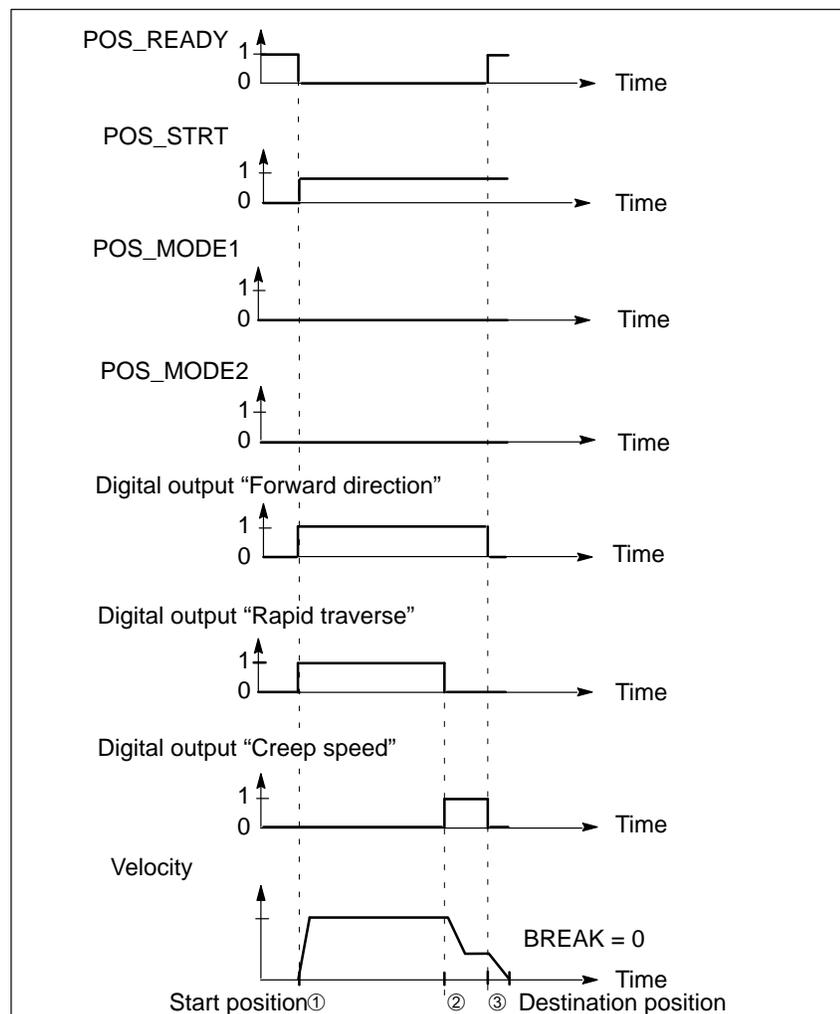

Figure 6-23 Positioning Operation for Rapid Traverse/Creep Speed Drive Forward
**Explanatory Notes on Figure 6-23** Table 6-19 contains explanatory notes on Figure 6-23.
Figure 6-23 shows an example of a positioning operation over time. A positioning operation is started and a destination position is approached with a rapid traverse/creep speed drive.